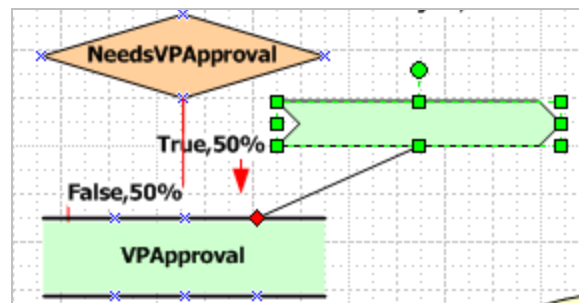

Figure 3-29. Router Shape
6. Add a Router shape to the VPApproval Assignment shape so that the Purchase Order is routed to the user identified by the Operator ID VP@AlphaCorp.com (Figure 3-29) as follows:
8. The True and False connectors from the Decision shape are currently “dangling” or unattached to other shapes (Figure 3-29). Process Commander uses red connectors to indicate that they are not attached to a shape. Follow the steps below to attach the connectors.